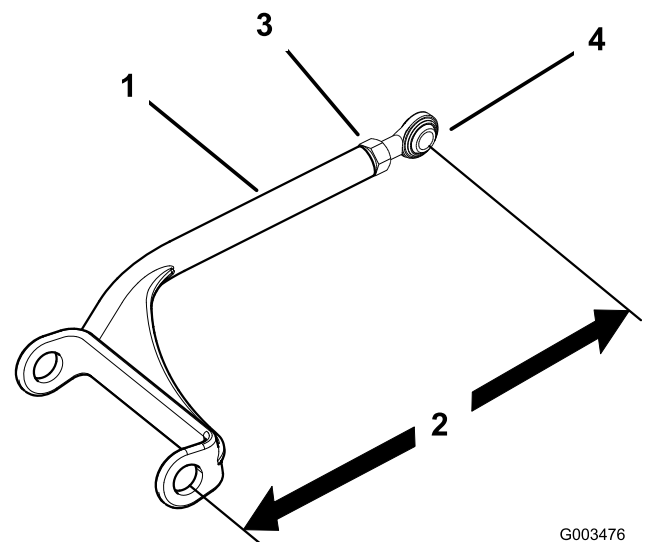

Figure 48
1. Loosen the jam nut and rotate the ball joint counterclockwise, one turn at a time (Figure 48).
2. Adjust each side the same amount. Each push arm should have a length of 15-1/8 inch (384 mm) (Figure 48).